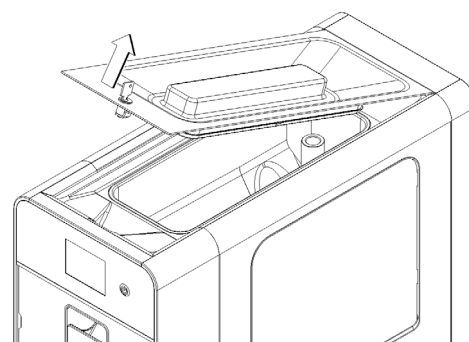

figure 16
- 1** Remove the upper cover. (see figure 16)